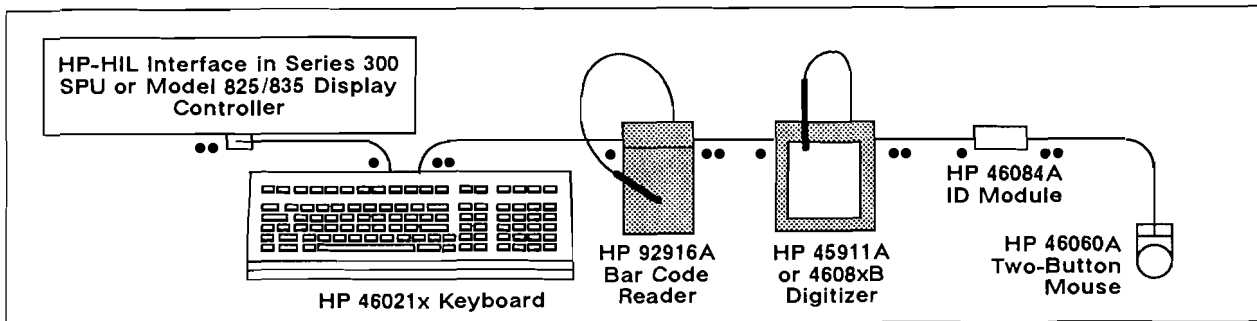

Figure 90. HP-HIL Connection Example
All Series 300 computers include a built-in HP-HIL host interface as do the display controllers of Model 825 and 835 Superworkstations. Most HP-HIL devices have a "towards host" (●) and an "away from host" (●●) female connector. Using appropriately keyed and coded HP-HIL cables, which are available in various lengths, multiple HP-HIL devices are daisy-chained from the single host interface. See Figure 90 connection example on next page.
- The total number of addressable devices must be seven (7) or less. Most devices use one address, except for extensions, which have no address, and the 46085A Control Dial Module, which has three addresses. See Table 16 for device addressing.
- It is possible to have more than one of the same device on the link. With respect to keyboards, the operating system establishes its single internal key-location-to-character code conversion table based on the language ID of the first keyboard-type device encountered. An application using a 92916A bar code reader, which emulates a keyboard, should have the reader configured “downstream” of the keyboard, as shown in Figure 90, above. An application, such as text translation, that uses two different keyboards must perform a secondary conversion on characters sent from the second keyboard.
the most economical bar code data entry solution. The 92916A Bar Code Reader connects via HP-HIL as shown in Figure 90 on the previous page.